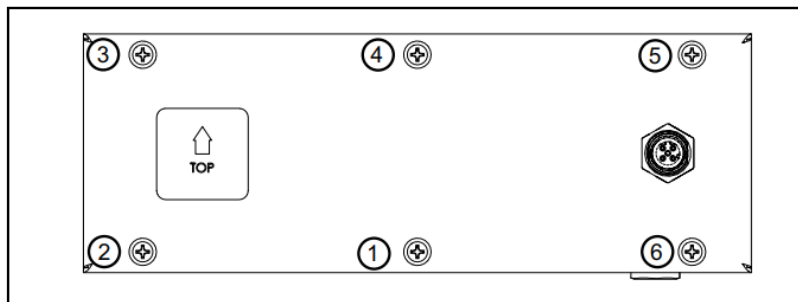

Figure 7. Torque Pattern
16. Torque the screws to 10 in-lb (1.13 Nm) in order using the numbering pattern shown in Figure 7.